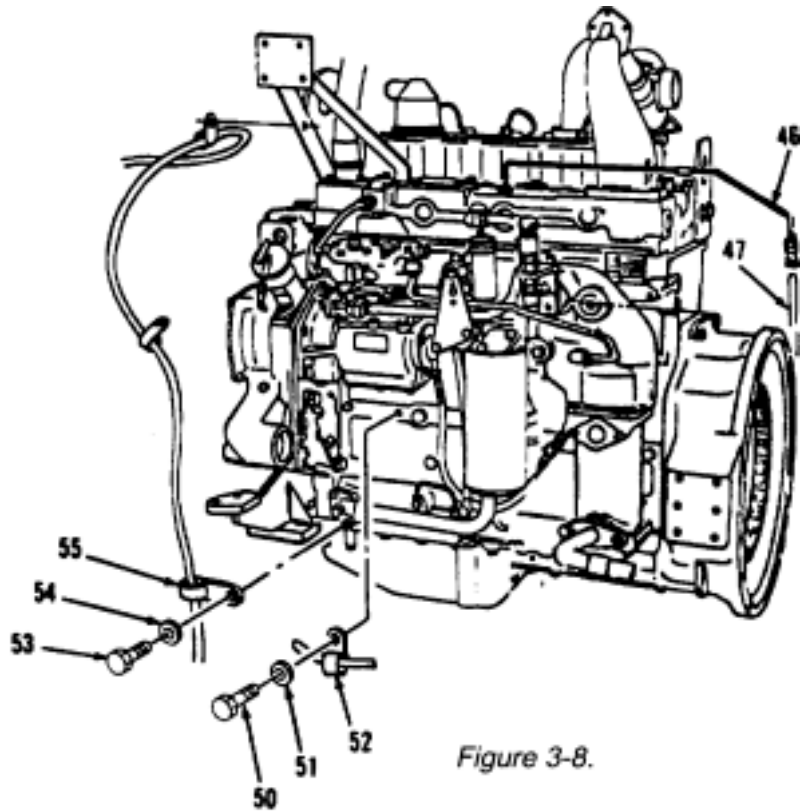

Figure 3-8.
15. Install clip (55), washer (54) and bolt (53, Figure 3-8).
16. Install clip (52), washer (51) and bolt (50). Route engine wiring harness between engine block and oil gage tube.